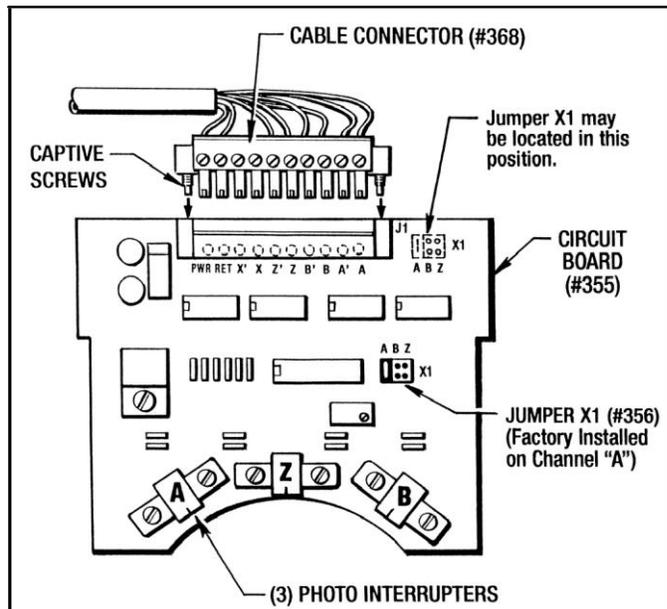

Figure 9.12 - Circuit Board Connector
11. Place the Cable Grommet (#260) and Cable (#259) into the upper slot and plug in the Cable Connector (#368) to the Circuit Board Connector and tighten the (2) Captive Screws in the Cable Connector. (See *Figure 9.12*)
12. Place the top Gasket (#19) on the Upper Enclosure and attach the Top Cover (#372) with (4) Screws (#225).